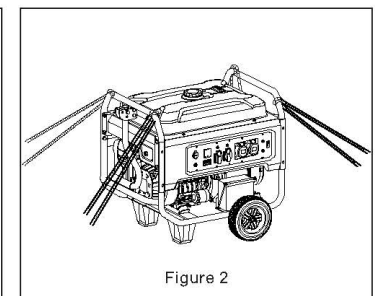

Figure 2
- When transporting the generator by loading it on to a vehicle, secure to the generator frame as shown (see fig.2).